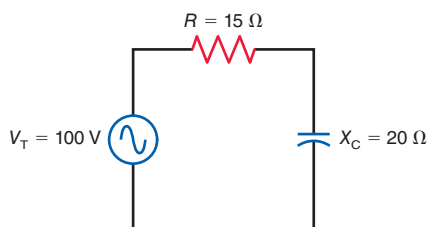

Figure 17-13
- 17.8 In Fig. 17-13, solve for Z_T , I , V_C , V_R , and θ_Z .
- 17.9 Draw the impedance triangle for the circuit in Fig. 17-13. (Use R as the reference phasor.)